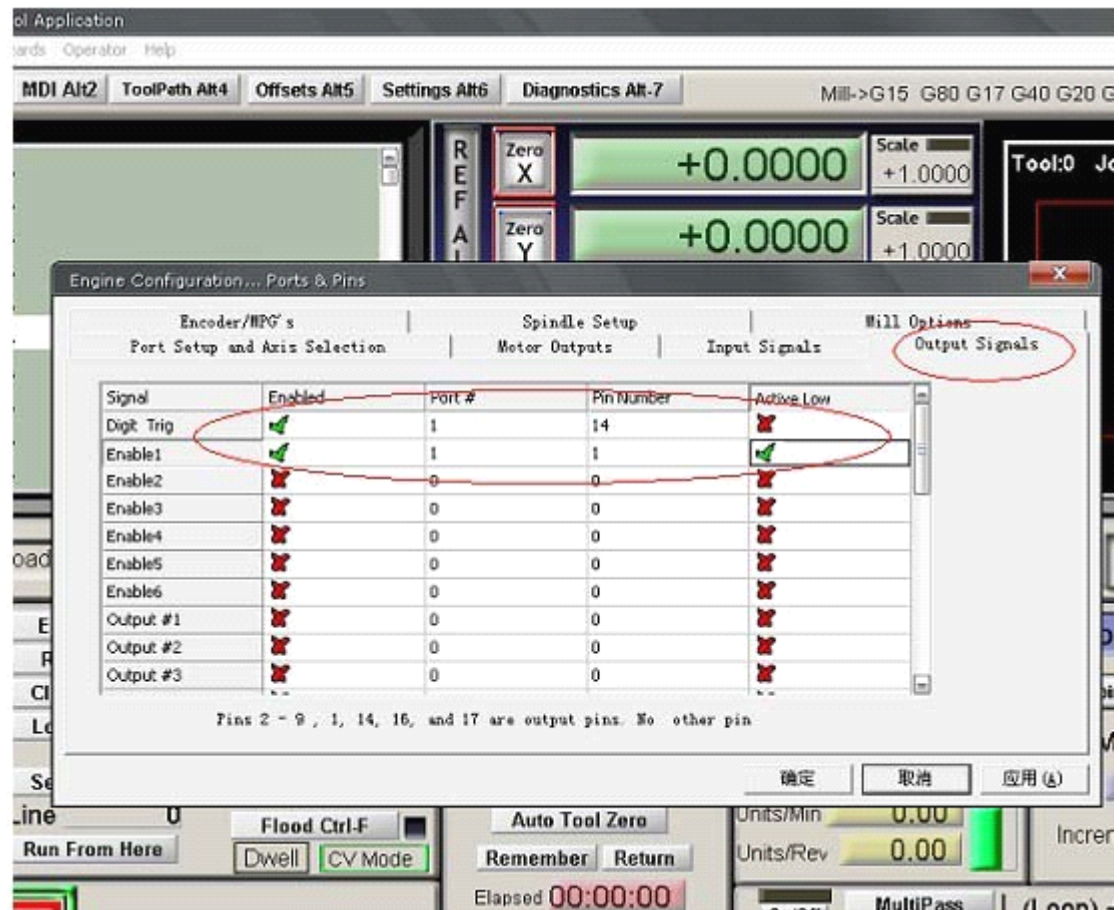

Fig 6 En and spindle relay Pin setting
**Pls click “output signals” as below Fig6 after set up the Dir and Step to set up the En and Relay.**